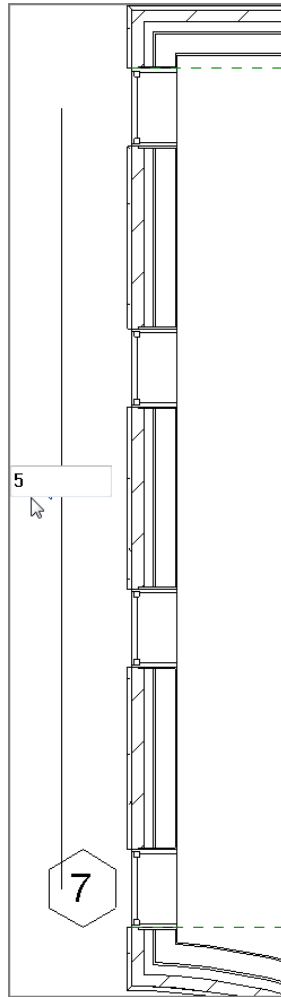

FIGURE 4.23: Changing the number of items in the array. You can always come back to the arrayed group and change this value at any time.
- 18.** After you pick the second point, you'll have to wait a moment; then Revit evenly fills the void with the two additional windows. Revit also gives you the option of adding more windows. Enter a value of 5, and press Enter (see Figure 4.23).